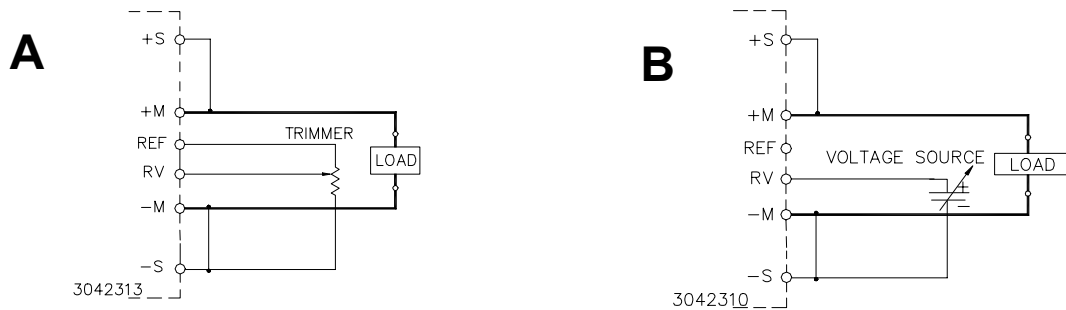

FIGURE 7. CONNECTIONS FOR REMOTE VOLTAGE CONTROL
**RESISTANCE:** Use a shielded wire 6.6 feet (2M) maximum in length, for connection (of REF, RV, and –S terminals) to the trimmer control. Connect the external trimmer as shown in Figure 7 (A). Suggested value for the trimmer control is 5K ohms). With the external trimmer control at its maximum clockwise position, set the output voltage to the desired maximum value by adjusting Vadj clockwise. The value should range from 0 to 120% of Eo nominal (from 0 to 110% for the 48-volt
7. Output Voltage Adjust (RV)
8. Current Balance (CB)
9. Power Failure (PF)
VOLTAGE. By adjusting an external 0-6V voltage source (0-5.5V for the 48-volt model, the 3.3-volt model can be adjusted to 3.6V) from minimum to maximum, the maximum output voltage can be adjusted from 0 to 120% (V) (for the 3.3 volt and 48 volt models 110%). Remove the shorting link between the REF and RV terminal. Connect the voltage source across the RV and (-)S terminals as shown in Figure 7 (B).